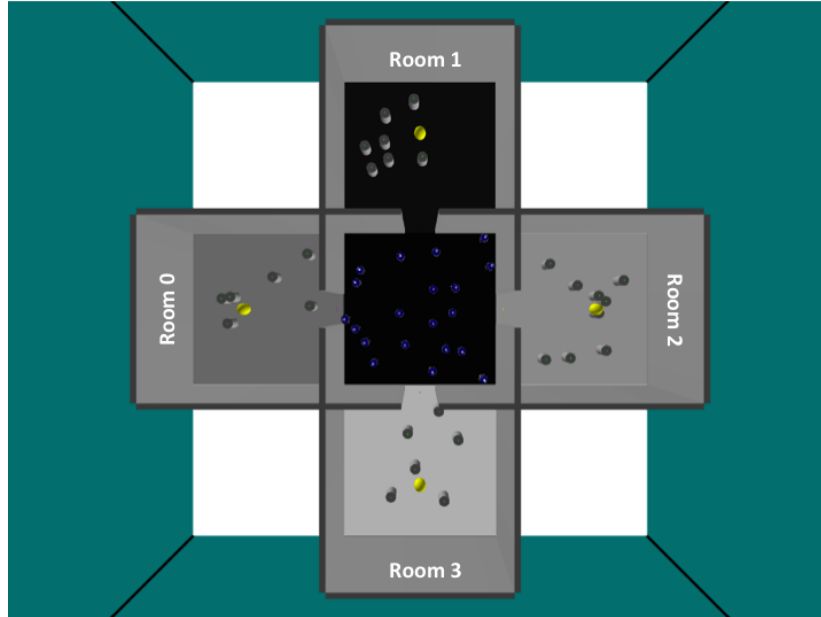

Figure 4: A top view of the environment.
Figure 4 shows a top view of the environment composed of four target rooms and a central room. The central room has no light and black ground. Each room has a different quality which may vary each experiment and is determined by the composition of the three metrics  $v_G$ ,  $v_L$  and  $v_O$  (see Equation (1)).
The quality measures in addition to the room quality are given in the following table for the 4 rooms illustrated in Figure 4: